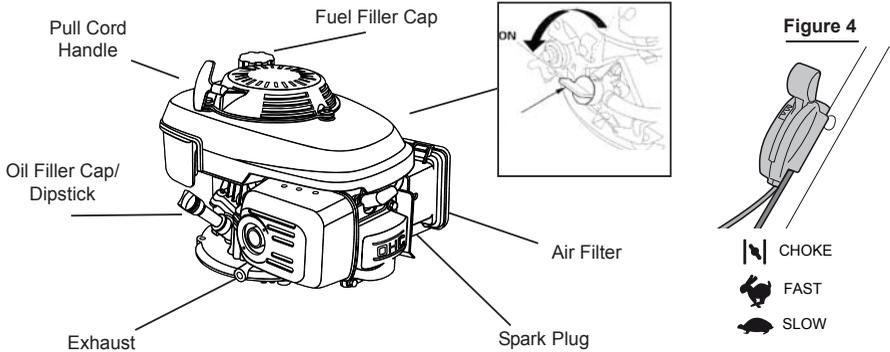

Figure 3
- Put an SAE 10W-30 oil, in the oil filler (Figure 3). Do not overfill, the oil tank capacity is 0.55 litre.
- Turn on the fuel tap which is located beside the air filter. (Close up in Figure 3).